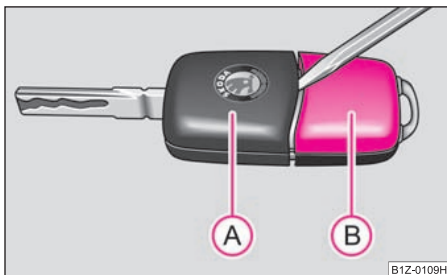

Fig. 34 Disconnect key with radio remote control
Each remote control key contains a battery which is housed in the cover (B) of the transmitter housing ⇒ fig. 34. We recommend having the battery of the key replaced by a specialist garage. You should, however, proceed as follows if you wish to replace the battery yourself:
- Use a thin screwdriver to carefully lever off the front part of the key (A) ⇒ fig. 34 from the transmitter housing (B).